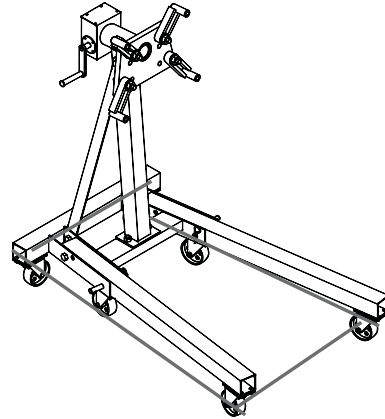

Figure 3 - Peripheral Loading Limit of Engine Stand
**WARNING: ALWAYS** verify that the product and the application are compatible. **NEVER** load the engine stand with an engine that extends beyond an imaginary line drawn connecting the centerlines of the front and rear wheel/ caster axles as show in Fig 3.